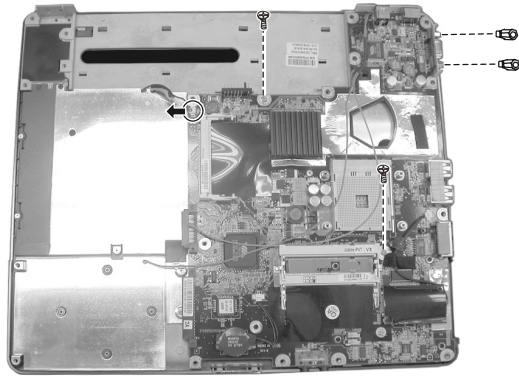

Figure 2-19 Free the system board
6. Disconnect the one cable from the system board, then remove the two screws and two hex nuts. And free the system board. (Figure 2-19)